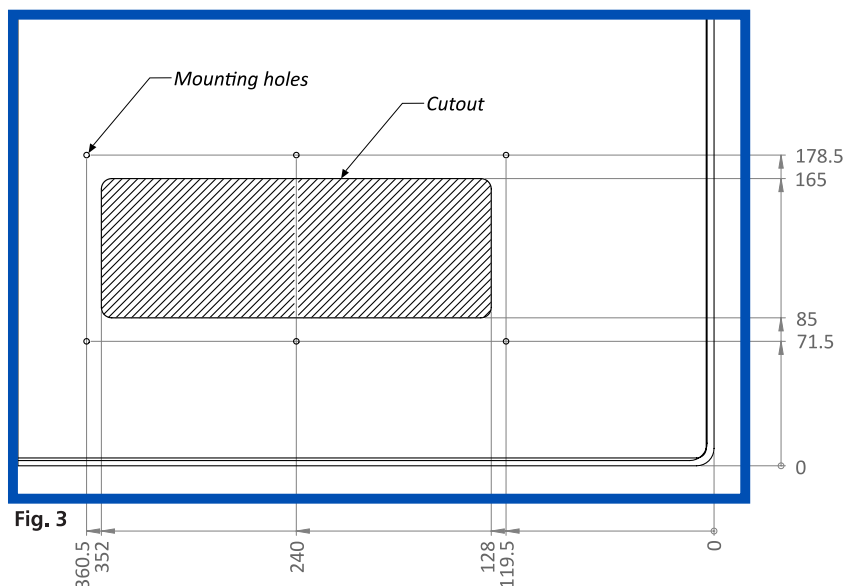

Fig. 3
- Mark the area to be removed on the camper door (Fig. 3).
- Mark the vent mounting holes on the exterior side of the door (Fig. 3).